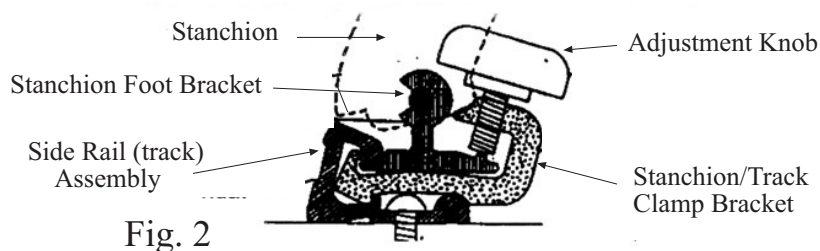

Fig. 2
5. Insert stanchion/track clamp brackets into side rails by tilting slightly & sliding under lip of rail as shown in Fig. 2. Slide stanchion foot brackets into the stanchion/track brackets (insuring lip of foot bracket is underneath the ball-lip of side rails), aligning bracket ends. Install adjustment knobs into threaded holes in stanchion/track clamp brackets.
6. Insert stanchion/track clamp brackets into side rails by tilting slightly & sliding under lip of rail as shown in Fig. 2. Slide stanchion foot brackets into the stanchion/track brackets (insuring lip of foot bracket is underneath the ball-lip of side rails), aligning bracket ends. Install adjustment knobs into threaded holes in stanchion/track clamp brackets.